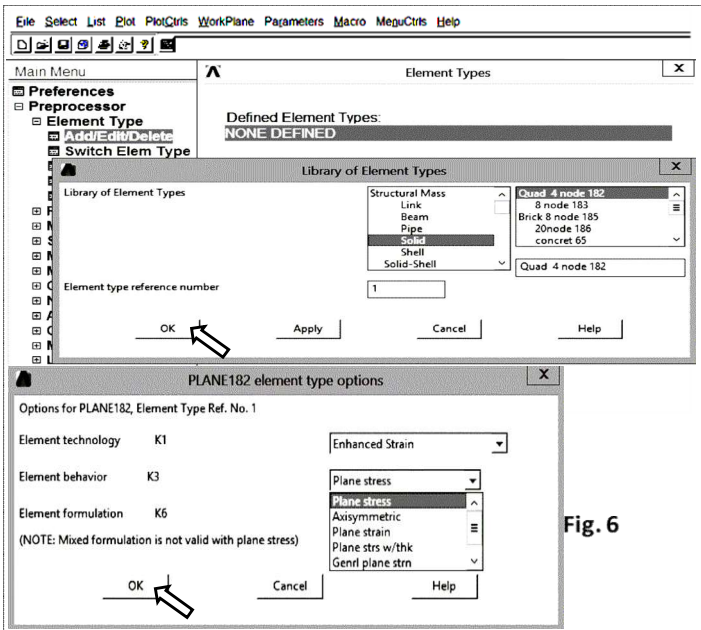

Fig. 6
2. Choose a finite element: PLANE182 (Quad 4 node) with the plane stress option and the enhanced strain technology (Fig. 6) :